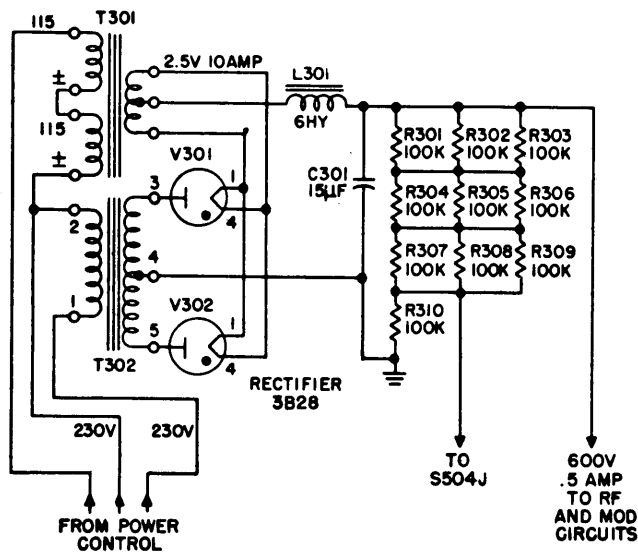

Figure 2-25. Low-Voltage Power Supply, Simplified Schematic
(5) LOW-VOLTAGE POWER SUPPLY (*see figure 2-25*).—The Low-Voltage Power Supply shown in figure 1-4 uses two rectifiers, type JAN 3B28 (V301 and V302), connected as a full-wave rectifier to rectifier plate transformer T302. The filaments of V301 and V302 receive power from rectifier filament transformer T301. The JAN 3B28 is a xenon-filled tube which operates satisfactorily over a wide ambient-temperature range. The rectified voltage is fed to a single-section choke-input filter consisting of choke L301 and capacitors C301. This type of filter not only gives better voltage regulation but also protects the rectifiers by preventing current surges, such as